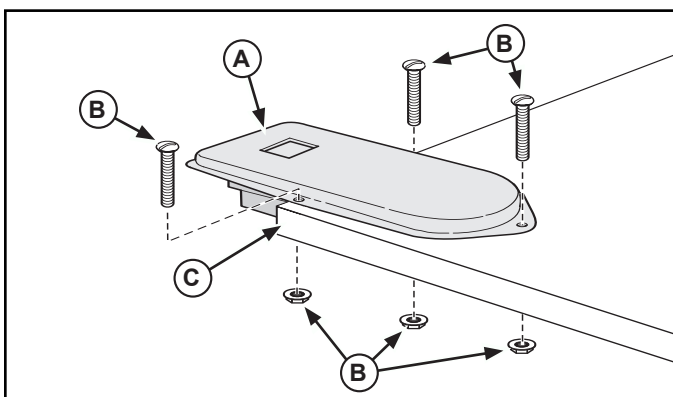

Figure 1. Base to Work Surface Installation.
1. Choose a convenient location with a firm work surface (C) and install the base (A) securing with the hardware (B) provided. See Figure 1. On thin gauge work surface we suggest you fit a spacer plate underneath. This will prevent the flexing of the work surface and possible spillage of can contents during opening.